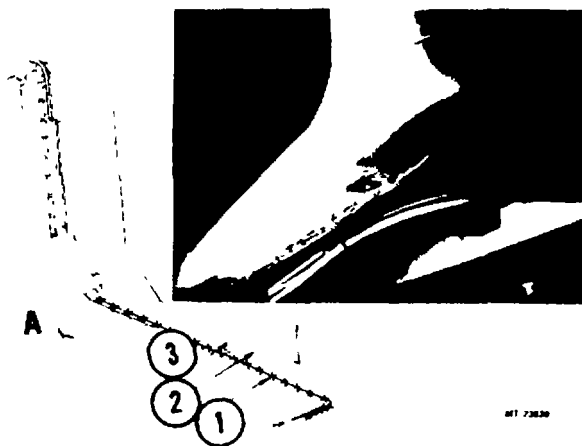

Fig. 41 Rocker Panel to Sill-Side Inner Panel Spot Welds
5. Drill out spot welds along seam at bottom of cab and separate rocker panel from sill side inner panel (Fig. 41).